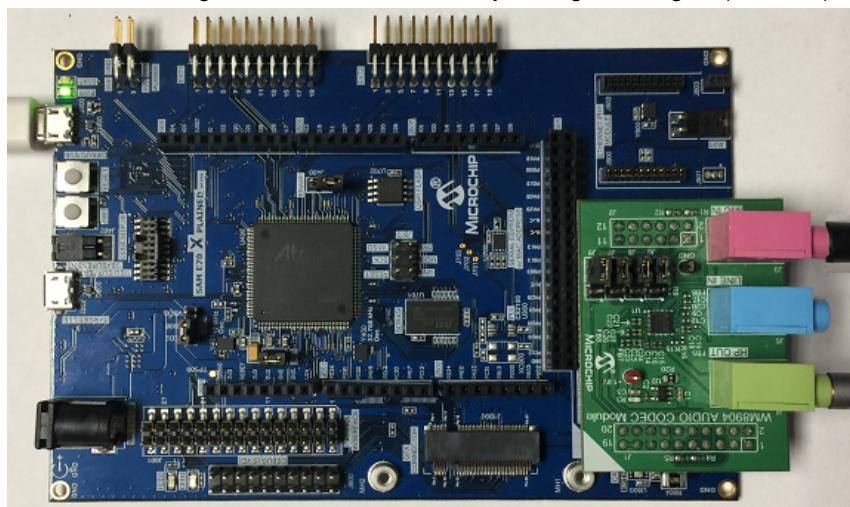

Figure 1: WM8904 Audio Codec Daughter Board on SAM E70 Xplained Ultra board
1. Connect headphones to the HP OUT jack of the AK4954 or WM8904 Audio Codec Daughter Board (see **Figure 1**), or the HEADPHONE jack of the SAM V71 Xplained Ultra board.
2. Connect a microphone to the MIC IN jack of the WM8904 Audio Codec Daughter Board (see **Figure 1**), or the MICROPHONE jack of the SAM V71 Xplained Ultra board.
1. Connect headphones to the HP OUT jack of the WM8904 Audio Codec Daughter Board (see **Figure 1**).
2. Connect a microphone to the MIC IN jack of the WM8904 Audio Codec Daughter Board (see **Figure 1**).